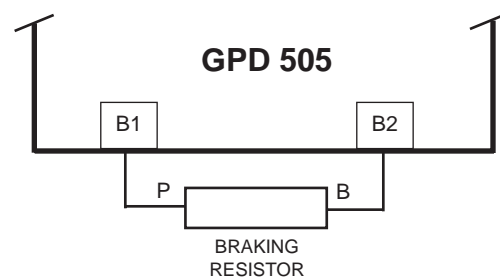

Figure A7-2. Lead Connections For Braking Resistor (Heat Sink Mounted)
4. Connect the leads from the Braking Resistor to drive terminals according to Figure A7-2.